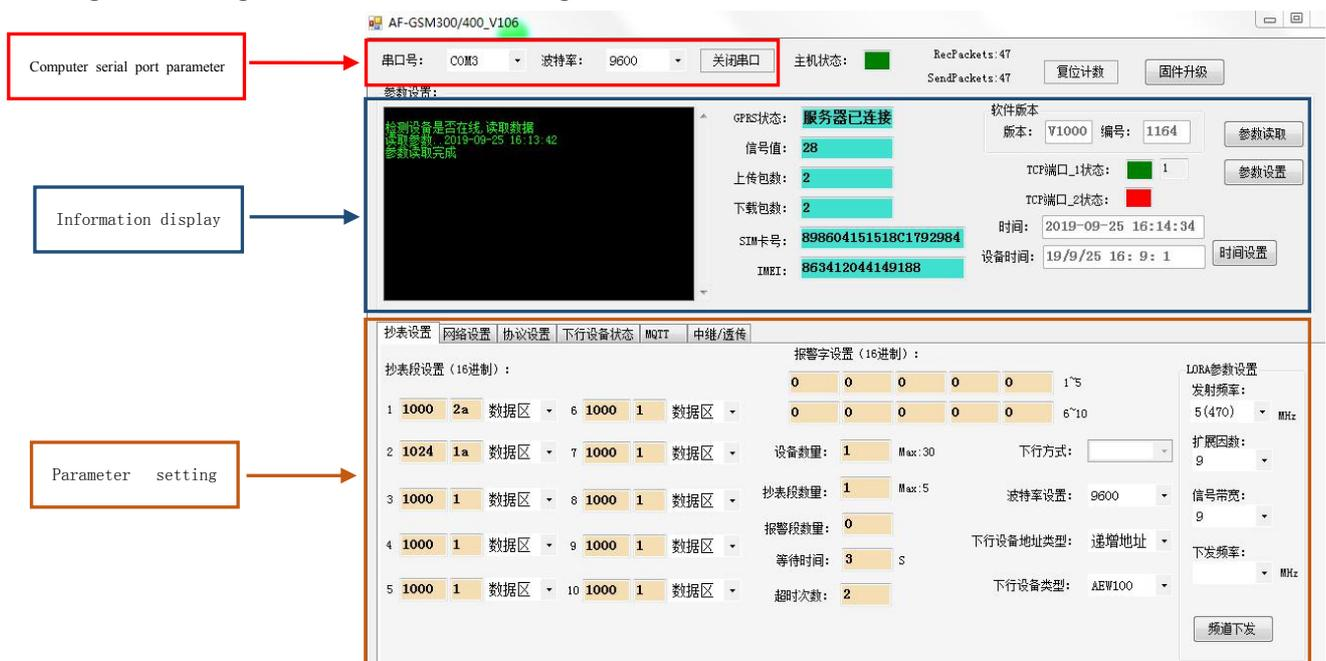

Figure 5
(1) The AWT100 wireless communication terminal is powered on, and the working indicator of the AWT100 wireless communication terminal flashes, indicating that the AWT100 wireless communication terminal has started to work.
(2) Start the configuration software of the AWT100 wireless communication terminal, which consists of the computer serial port parameter area, information display area, parameter setting area, parameter reading and setting buttons, as shown in Figure 5.
Click the in the upper right corner 参数读取 , to display all the parameter values inside the AWT100 wireless communication terminal, as shown in Figure 5.